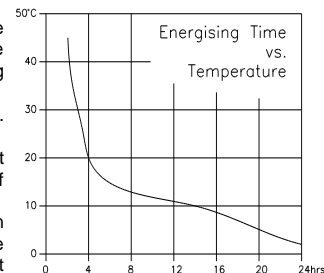

Figure 1
- 9 Trim any hardened pieces from ends of stick. Mix the compound by rolling, folding and breaking. Ease mixing by cutting large sticks in half. Fully mixed compound has a uniform colour with no streaks – see Figure 1.